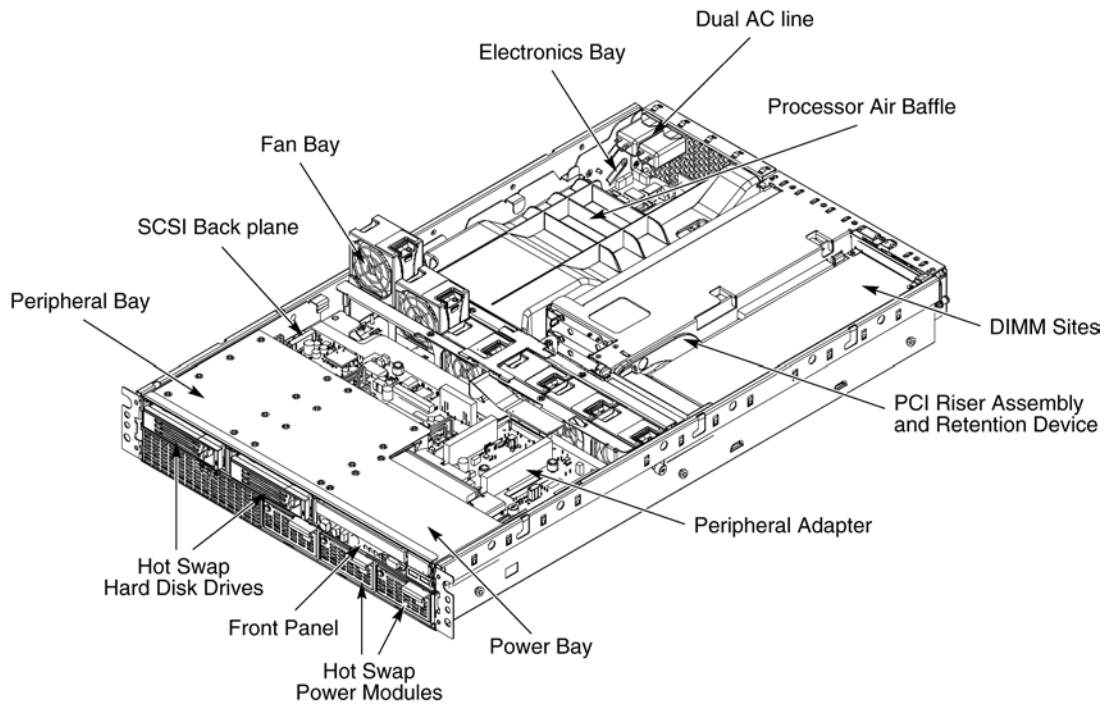

Figure 51. Locating System Modules
Figure 51 shows the chassis with the top cover removed. Several component areas can be identified, including the processor air duct, memory area (eight DIMM sites, obscured), the PCI riser assembly, the electronics bay (E-Bay), and the peripheral bay. In addition, the chassis supports three hot-swap power supplies, six fans, three PCI cards, one ATA DVD / CD-ROM drive, and two SCSI (SCA-2) hard drives.
3. Locate the fan bay. See *Figure 51*.